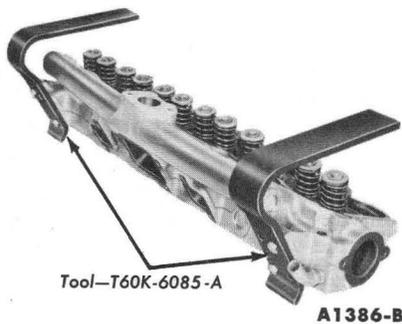

FIG. 35—Cylinder Head Holding Fixtures
1. Install the cylinder head holding fixtures (Fig. 35). Remove deposits from the combustion chambers and valve heads with a scraper and a wire brush before removing the valves. **Be careful not to scratch the cylinder head gasket surface.**